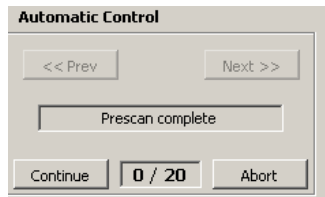

Figure 2.14.5: *Automatic Control* mode in complete stage
- Once the prescan is complete as seen in Figure 2.14.5, click continue.